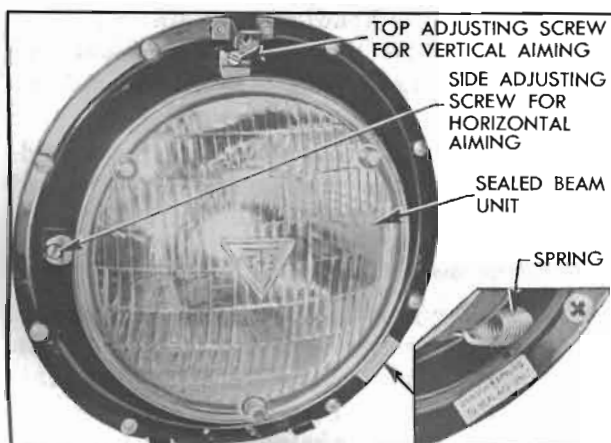

Figure 10-55—Sealed Beam Unit Mounting
2. Unhook the spring from retainer ring (fig. 10-55), then remove sealed beam unit and retainer ring, being careful not to disturb the two beam adjusting screws.
2. Adjust light beam up or down as required by turning the top beam adjusting screw. See figure 10-55.